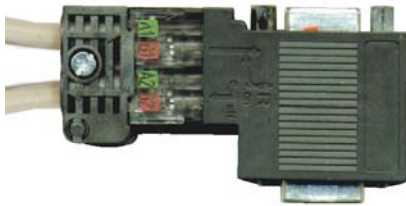

Figure 2.2: Bus connector with built-in switchable bus termination
1. Remove the bus connector from the master (view Figure 2.2 on page 15).